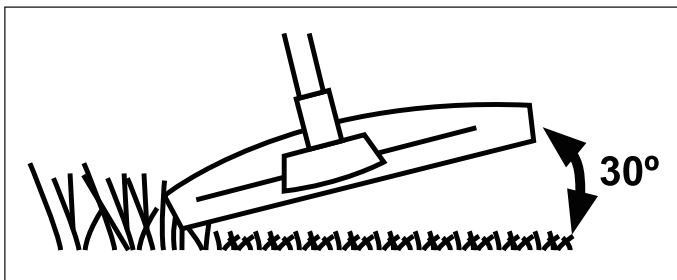

Fig. 14a
- 5). Hold the trimmer head just above the ground at an angle of approximately 30°. (See Fig. 14a)